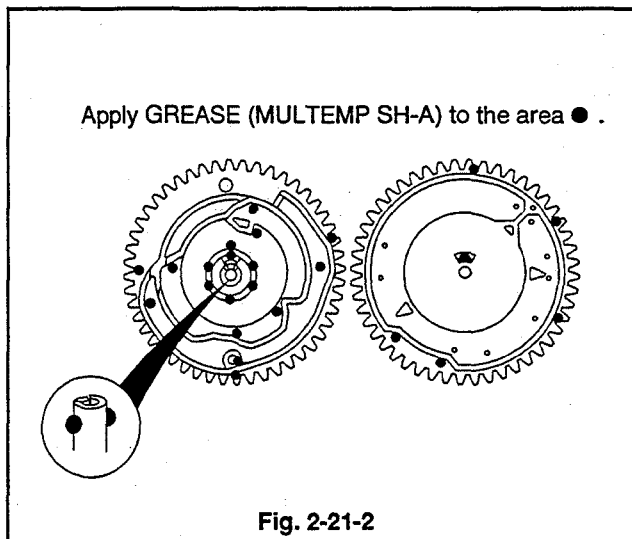

Fig. 2-21-2
1. Apply GREASE (MULTEMP SH-A) [859D055O80] to the area specified in Fig. 2-21-2 on the new CAM GEAR (TU).